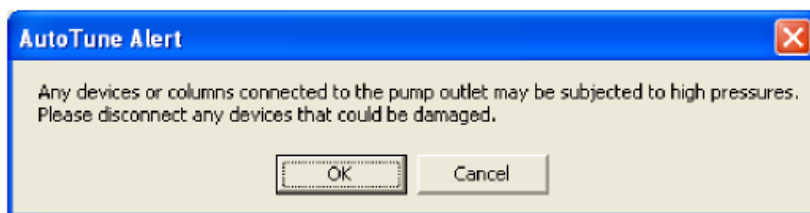

Figure 5-4 Autotune Alert Dialog
2. A dialog warns the user to disconnect any devices which could be damaged by high pressure (Figure 5-4).